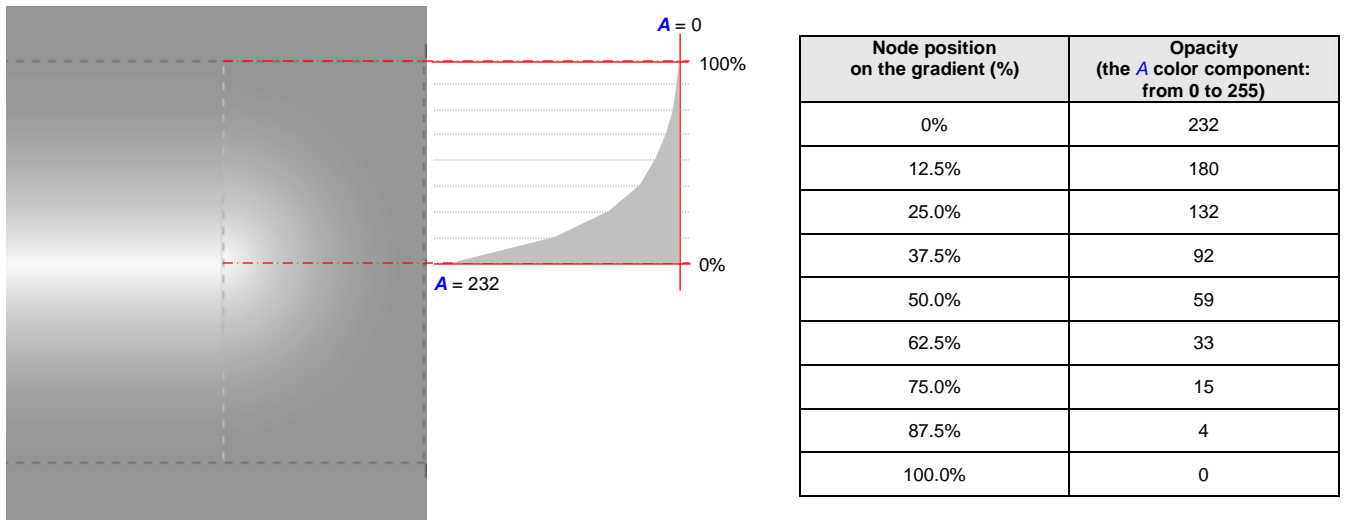

Figure 10.40.3 Parabolic gradient pattern, used to model the ridges on the fabric sheathing
To obtain proper ridges along the ribs, use a white gradient ($R, G, B = 100\%$, which means in Inkscape values of 255). Its subsequent nodes will have different opacity (A). Their opacity decreases in a parabolic way (Figure 10.40.3):